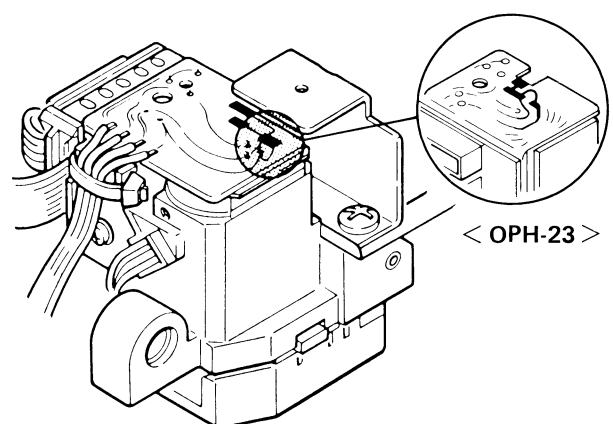

Figure 15
- (1) When mounting a new laser pickup, first connect the leads to connectors and then unsolder the solder used to protect laser diode on P.C. Board. (Refer to Figures 15 and 17.)
- Solder the leads as shown in Figure 15 (indicated by circle) before disconnecting lead connectors.